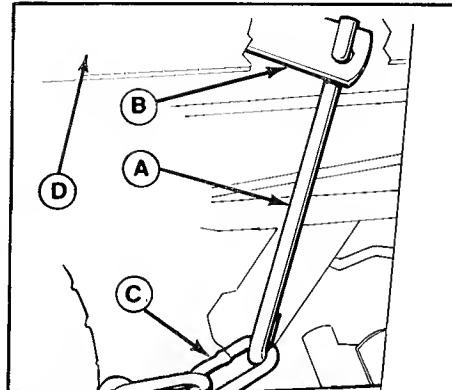

Figure 2. Installing Lift Link
5. Place the lift lever fully forward so that lift arm (B, figure 2) is in lowest position.
6. Slide the mower under the tractor so that the lift chain (C, figure 2) is under the lift arm (B).
7. The lift rod (A, figure 2) must be hooked into the lift arm (B) as shown. Insert the lift rod into the hole from the left side then pivot back and down.
8. Slip the chain (C) onto the lift rod (A). If chain has four links, use only three links, by hooking second link onto lift rod.
4. Unhook the lift chain (C, figure 2) from the lift link (A). Remove the lift link (A) from the lift arm (B). Store the lift link (A) until reinstallation of mower.